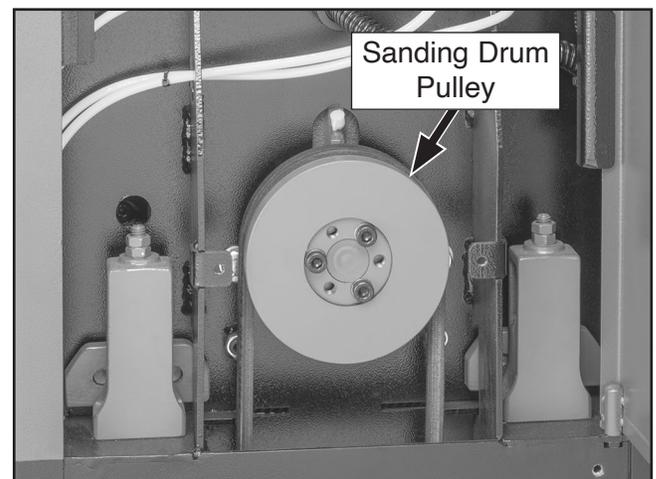

Figure 71. Location of sanding drum pulley.
5. Remove V-belts from sanding drum pulley (see **Figure 71**).